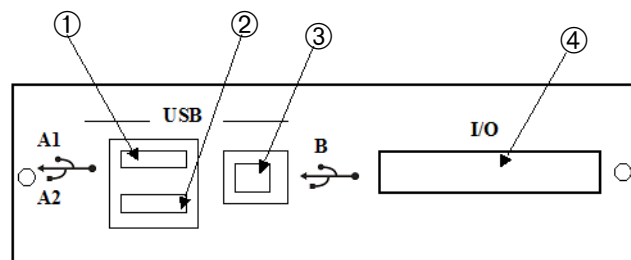

Figure 1-9 Optional I/O PCB Rear Panel
| ② Cover Plate | <p>Access to expansion slot. This is not used when an optional I/O PCB is installed. A rear panel of the optional I/O PCB is shown in Figure 1-9 on page 1-19.</p> |
A rear panel for the optional I/O PCB assembly is shown in Figure 1-9.